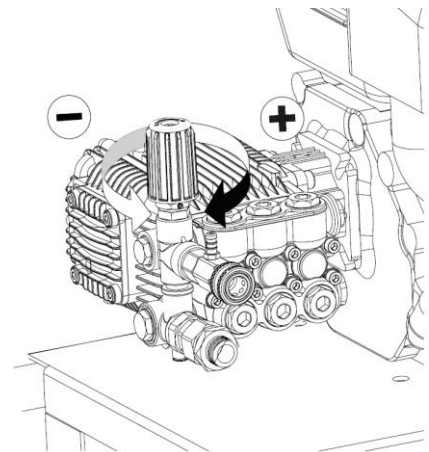

Fig. 12
- Adjust the spray pressure by turning the pressure adjustment knob (14) clockwise or counterclockwise. Use a lower pressure for washing a car or boat, and a higher pressure for removing paint or cleaning driveways. Refer to Fig. 12.